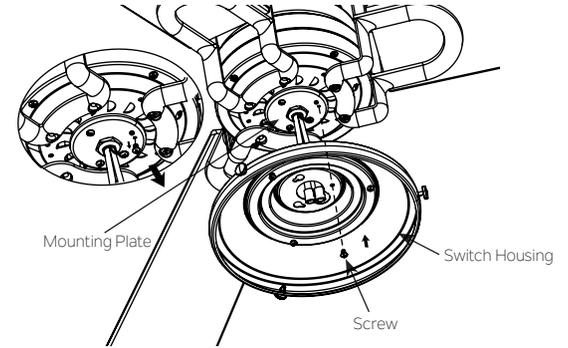

Fig. 20
Step 1. Remove the screw marked with a dot label which preinstalled on mounting plate and keep for later use. Loosen the other two (do not remove). Place the two slot holes on the switch housing over the 2 screws previously loosened from the mounting plate. Rotate the switch housing until it locks in place at the narrow end of the key holes. Secure by tightening the 2 screws previously loosened and the one previously removed. (Fig. 20)